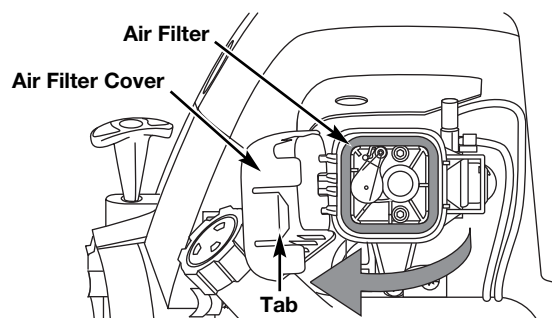

Fig. 32
1. Open the air filter cover. Push the tab on the right side of the cover inward. Then pull the air filter cover out and to the left (Fig. 32).
2. Remove the air filter (Fig. 32).